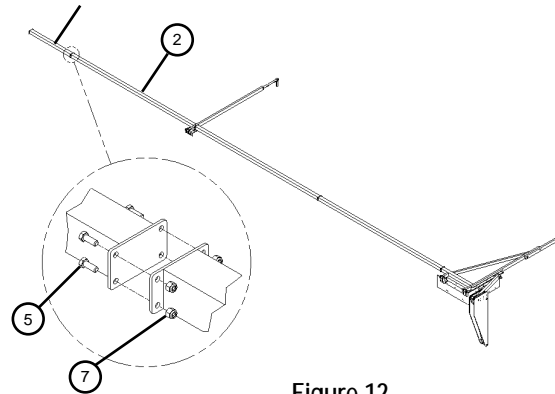

Figure 12
9. See *Figure 12*. Place Torque Tube Short (2) on trailer, supporting both ends, and position adjacent to third Torque Tube (1). Bolt Torque Tube Short (2) to third Torque Tube (1) with 3/8-16 x 1" hex bolt (5) and 3/8-16 Nylock hex nut (7).